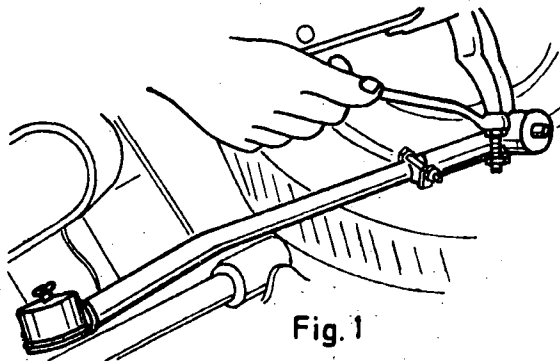

Fig. 1
- 7th Step - *Disconnect the end of the steering bar from the steering spindle arm. (Fig. 1).*